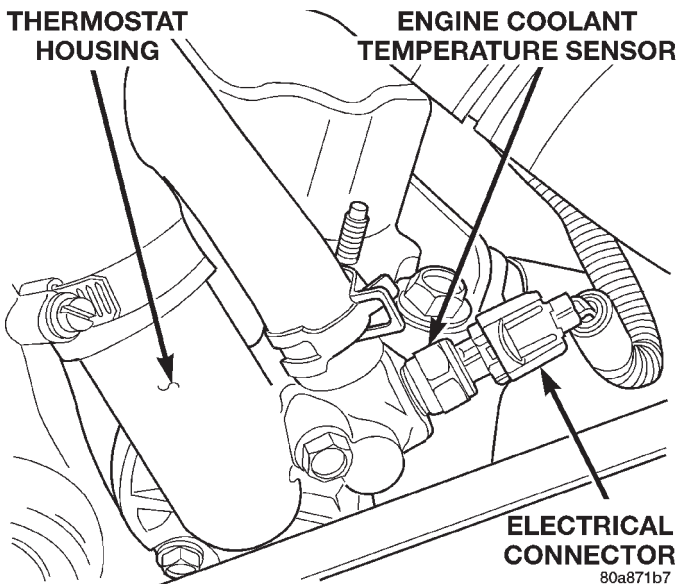

Fig. 43 Engine Coolant Temperature Sensor—4.0L Engine
(1) Partially drain cooling system. Refer to Group 7, Cooling.
(2) Disconnect electrical connector from ECT sensor (Fig. 43).
(3) Remove sensor from thermostat housing.